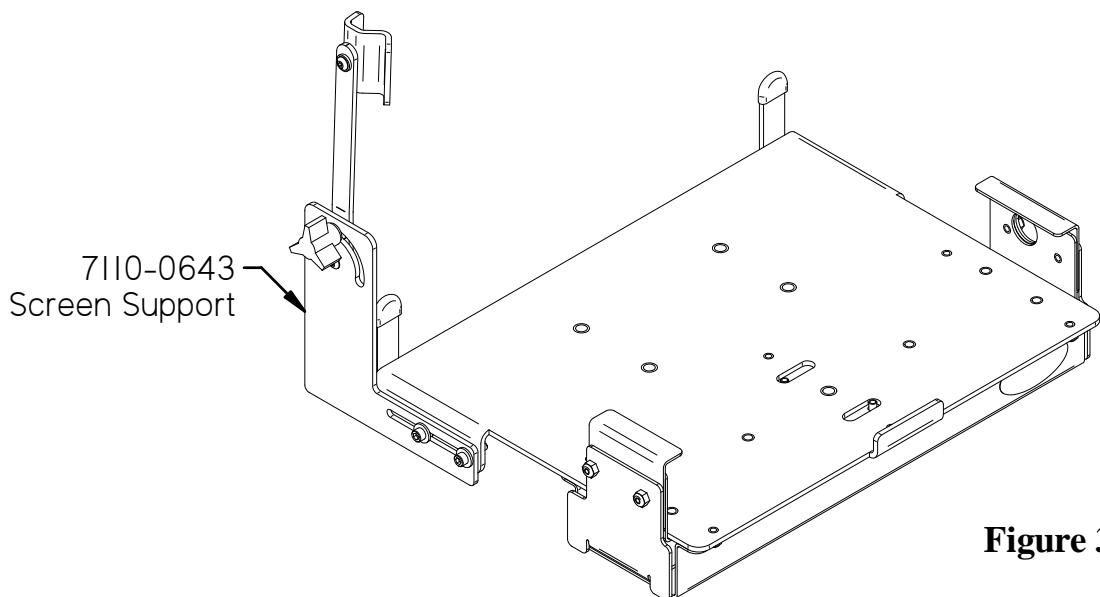

Figure 3
2. The **Screen Support 7110-0643** will attach directly to either side of the cradle with the machine screws and flat washers provided in the hardware bag that comes with the screen support. See Figure 3.